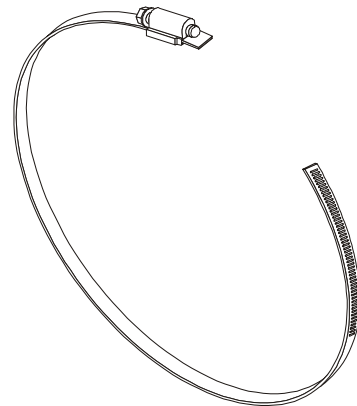

Figure B-4. Metal Strap Clamp
- Two metal strap clamps (see Figure B-4)